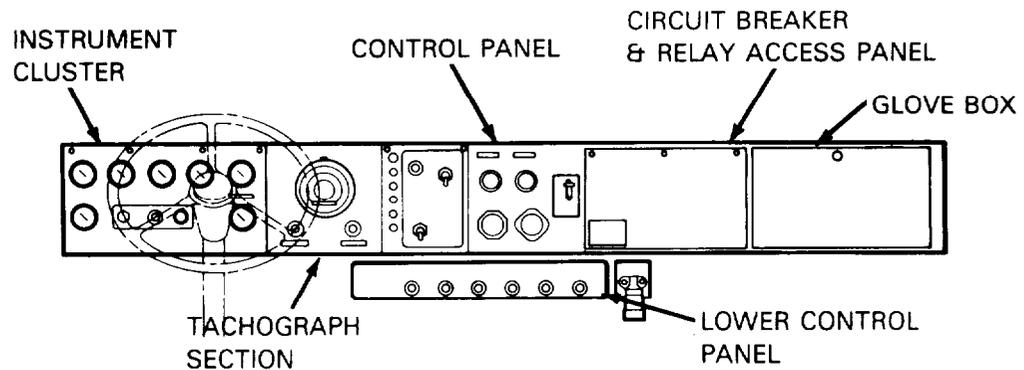

Figure 2-7. Instrument Panel.
- Cab floor-mounted foot controls Figure 2-7